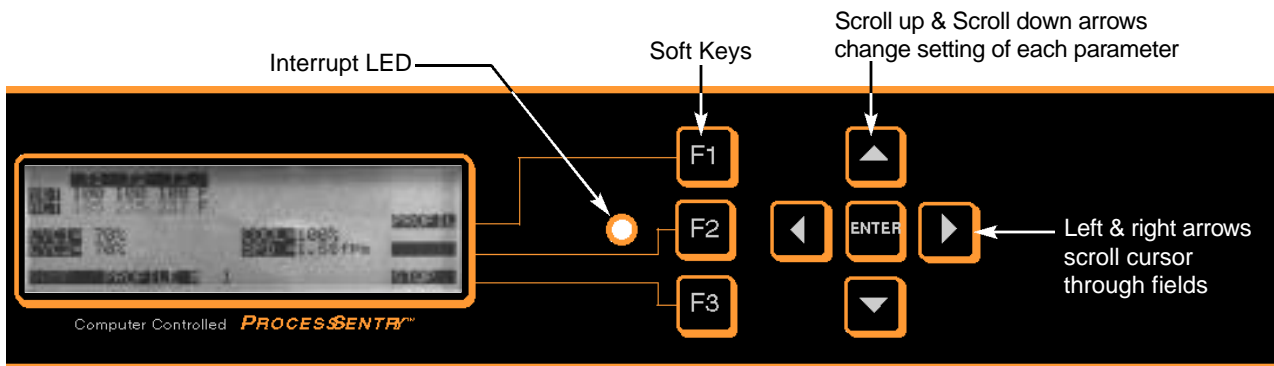

Fig. 3
3. PROF- (Fig. 3) For changing graphic profile display settings including: Time in minutes (choice of 4 or 8 min.), Maximum Temp (choice of 500°F / 260°C or 700°F / 371°C), Temp 1 (arbitrary horizontal reference line normally set for activation temperature), & Temp 2 (arbitrary horizontal reference line normally set for melting temperature).